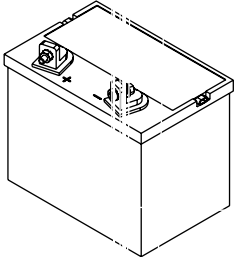

Figure 7-10
- Locate the applicable stop bolt on the left or right console. See Figure 7-10.